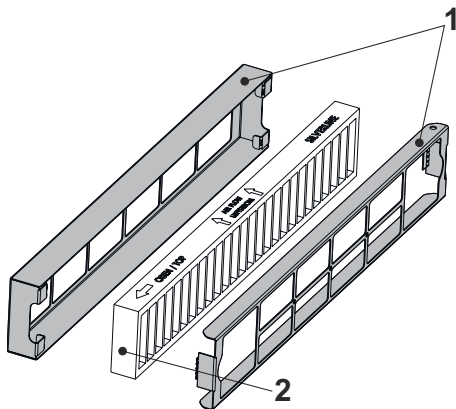

Fig. 8
4. → By removing the old carbon filter from the housing, replace with new carbon filter (Fig. 8).
During the carbon filter replacement, only replace the carbon filter, do not throw away the carbon filter housing. The carbon filter housing is not disposable (Fig. 8).
Pay attention to the direction of air flow when placing the carbon filter in its housing (Fig. 8).
Carbon and Halsa filters shouldn't be used without assembling Carbon Filter Housing (at the Fig. 8/1)